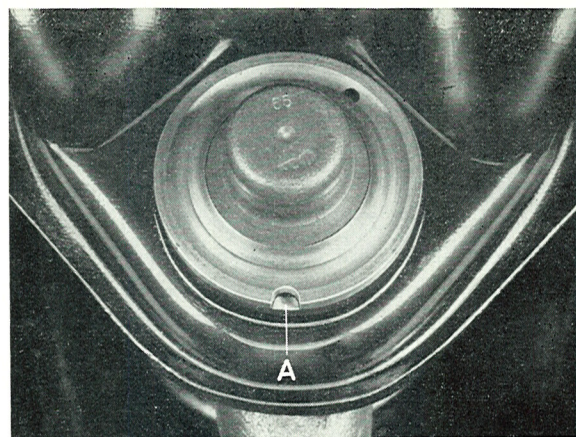
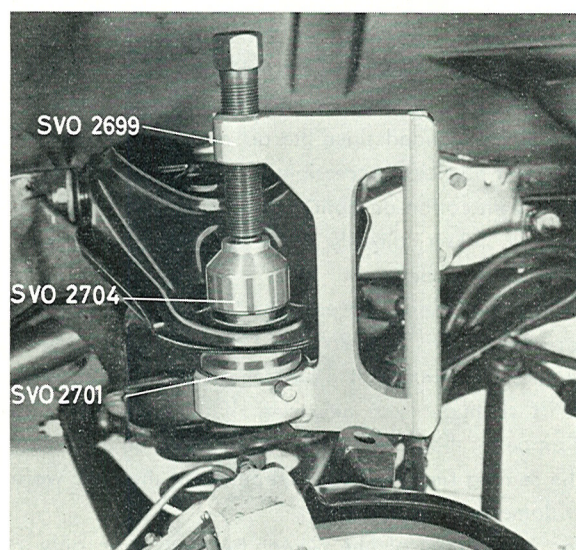
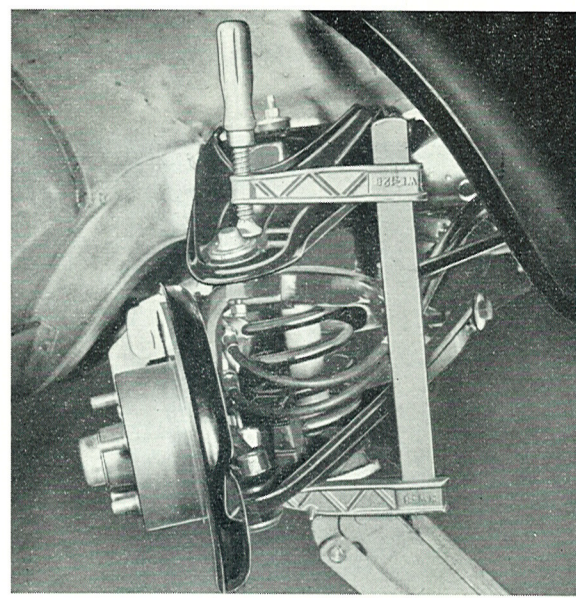

Fig. 6-20. Location of ball joint in upper wishbone
Fig. 6-21. Fitting the ball joint, upper wishbone
Fig. 6-22. Upper ball joint securely held by vise
position with a screw vise, (see Fig. 6-22). Fit the steering rod on to the steering arm.
5. Before fitting the ball joint, check that the rubber cover is filled with grease. Bend the pin end over the slot, see Fig. 6-20. Check that the grease forces its way out. If necessary top up with multi-purpose grease.
6. Press the ball joint into the wishbone with press tool SVO 2699, sleeve 2701 and drift 2704, see Fig. 6-21. Make sure that the slot in the ball joint coincides with the longitudinal shaft of the wishbone either externally or internally, see Fig. 6-20, as the pin has maximum movement in the direction of this line. Should the ball joint be incorrectly fitted when being pressed in, turn the tool SVO 2699 half a turn and then press the ball joint into the correct position. Turn down the wishbone and tighten the nuts for the wishbone shaft. Tighten the ball joint against the stub axle. If the pin rotates, hold it firmly with a screw vise, see Fig. 6-22.
8. Fit the steering knuckle and tighten the nuts of the upper and lower ball joints. If the pins rotate, fix them securely with a screw vice, see Fig. 6-22. Fit the steering rod and lower the jack in order to take the load off the wishbones. Point the wheels straight forwards and fasten the brake hoses to the stabilizer screw.